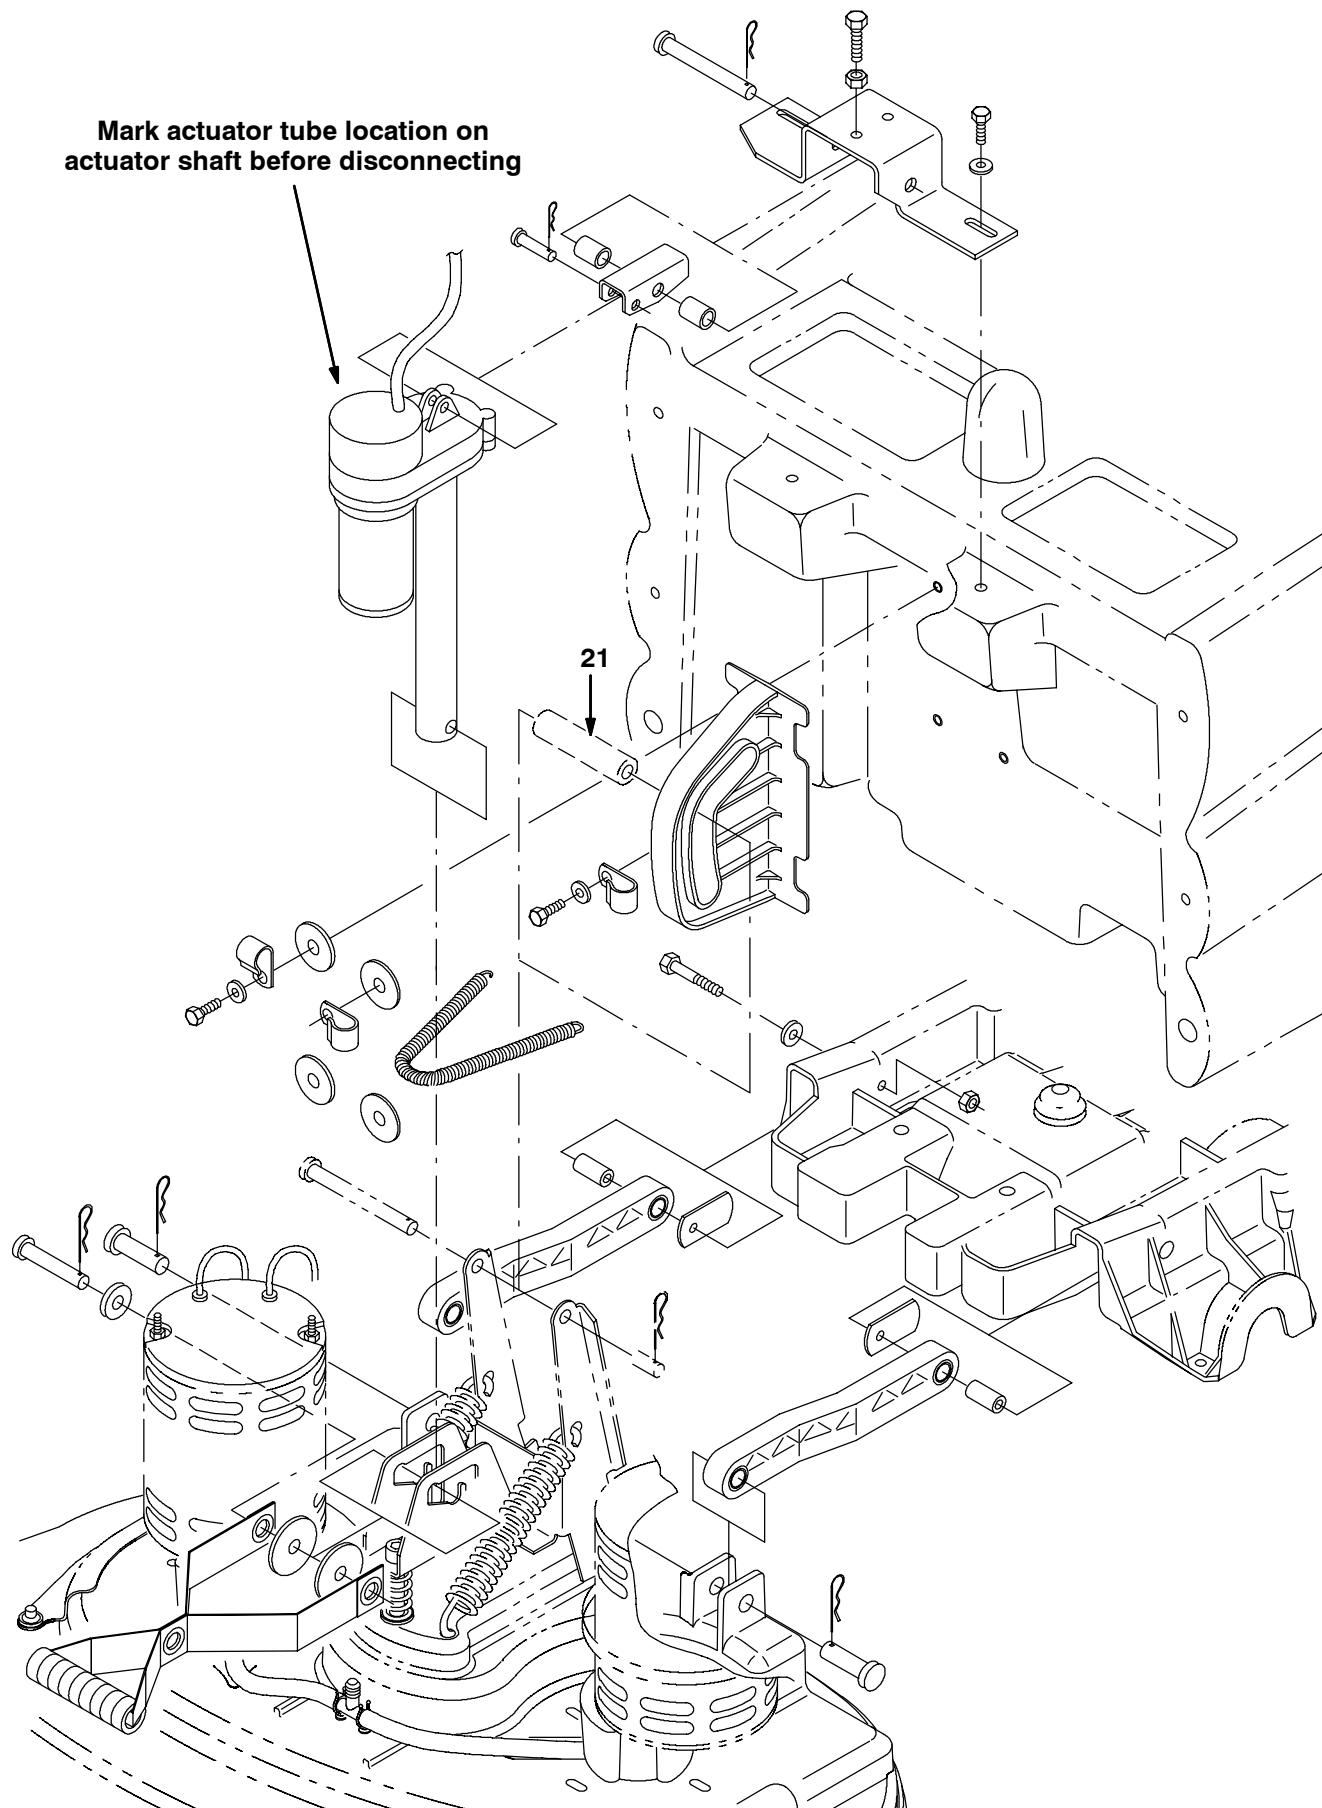

FIG. 12
*NOTE: Refer to FIG. 11 and FIG. 12 for detailed drawings of parts assembled throughout this Instruction Bulletin.*